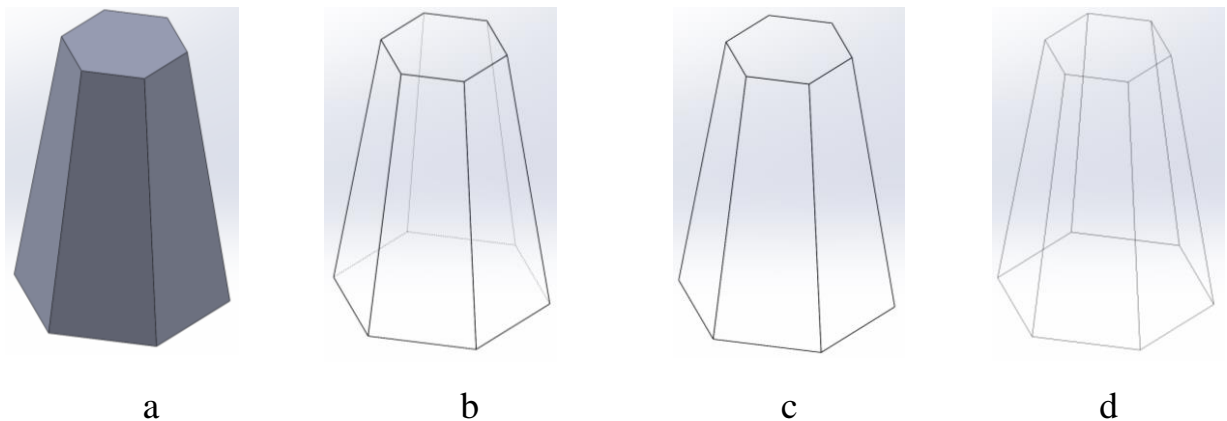

Fig. 3.12
(fig. 3.12) in the Display Style tab  :
- Shaded representation (fig. 3.12 a);
- With the display of hidden lines (fig. 3.12 b);
- Without the display of hidden lines (fig. 3.12 c);
- Wireframe representation of the model (fig. 3.12 d).